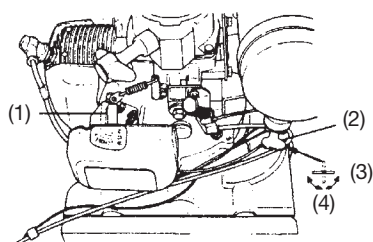

Fig. 4
- 2) Open fuel cock. (Fig. 4)
- 3) Turn choke lever to CHOKE position. (Fig. 4)
- 6) When you hear the engine want to start, return choke lever to RUN position (open). Then pull the recoil starter briskly again. (Fig. 4)